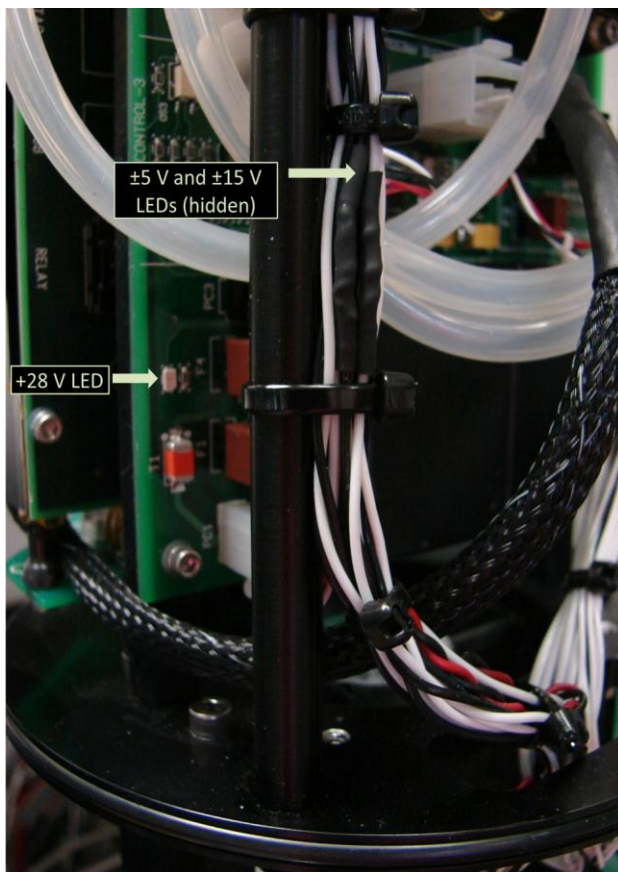
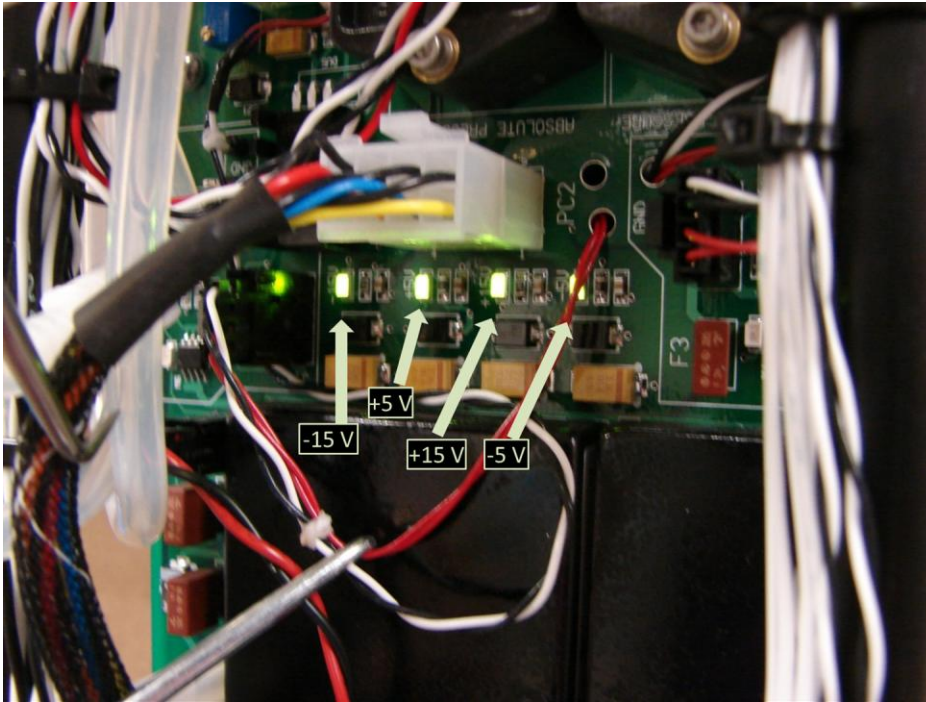

Figure 6: 28-Volt LED
Figure 7: LEDs for ± 5 or ± 15 Voltages
1. Ensure the five voltage LEDs are lit on the Power Module. This board is mounted on the bottom in the PIP PCB area. Figure 6 shows the 28-V LED, while Figure 7 shows the four LEDs for ± 5 V and ± 15 V. If the 28V LED is unlit, there is no power to the PIP. It will be necessary to trace the power back through the canister and the aircraft. If any of the ± 5 V and ± 15 V LEDs is unlit, there is a DC-to-DC power